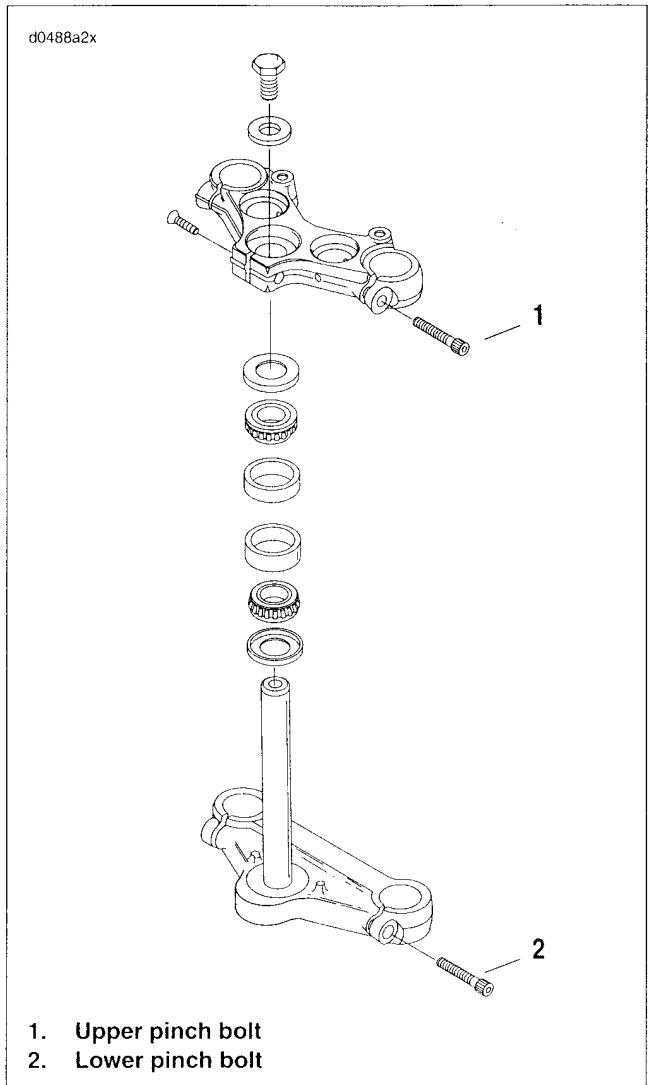

Figure 2-100. Fork Pinch Bolts
2. See Figure 2-100. Tighten fork stem bracket pinch bolt(s) to 30-35 ft-lbs (40.7-47.5 Nm).